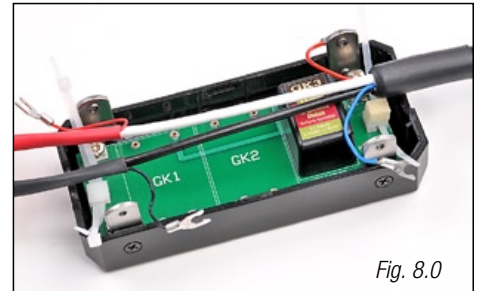

Fig. 8.0
**8** Lay the cable into the cable enclosure. Note the correct placement: The GK3 module is at the "input" side of the cable. (Fig 8.0) shows the zip ties in place.